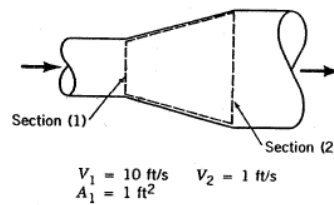

FIGURE P5.1
5.1 Water enters a conical diffusing passage (see Fig. P5.1) with an average velocity of 10 ft/s. If the entrance cross section area is 1 ft², how large should the diffuser exit area be to reduce the average velocity level to 1 ft/s?